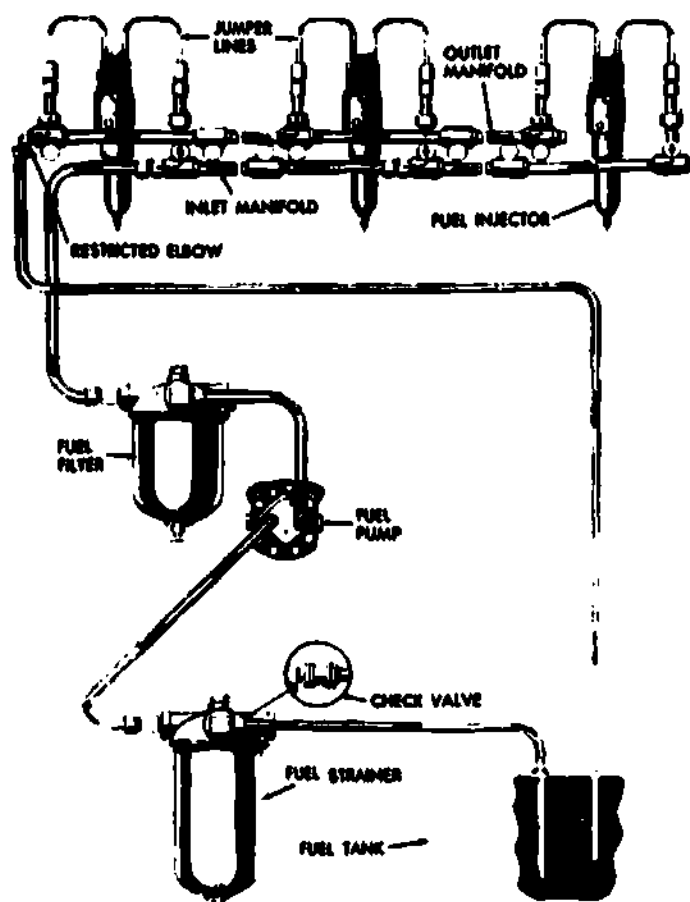

Fig 2-9. Typical fuel system.
defective fuel intake line check valve (fig 2-9) will allow the fuel to drain back to the supply tank or prevent the fuel from flowing. The valve would close and stop the fuel if it was installed backwards. A valve that fails to close would allow the fuel to drain back to the tank. The installation of a substitute for the restricted elbow in the end of the outlet manifold (fig 2-9) would prevent the fuel pump from building up the required pressure to supply the injectors. The last items to check for insufficient or no-fuel problems are the fuel pump and the injector control rack setting. A defective relief valve or worn pump will not deliver the proper amount of fuel at the prescribed pressure. The pump is driven from the rear end of the lower blower rotor. It is possible for the pump to be improperly installed or have a broken shaft and fail to operate. An engine that is receiving the proper amount of fuel should have about 1 gallon per minute flow through the return line with the engine operating at 1,200 rpm. The temperature of the return fuel should not exceed 150° F.
- (d) Fuel system and governor. Because the fuel system and governor are so closely related, they are grouped together here. Even though they are separate systems, the governor helps control the amount of fuel that is injected into the engine. The governor is driven by the front of the upper blower rotor. More than one governor is used to control some engines. There are several types of governors used with the Detroit diesel engines and too much space would be required to discuss removal, installation, and adjustment procedures for each. Therefore, it will be necessary for you to refer to the specific TM for governor information. The controls that control it are removed. Figure 2-13 shows how the governor is mounted and attached to the fuel injector control racks; components of the fuel system were shown in figure 2-9.